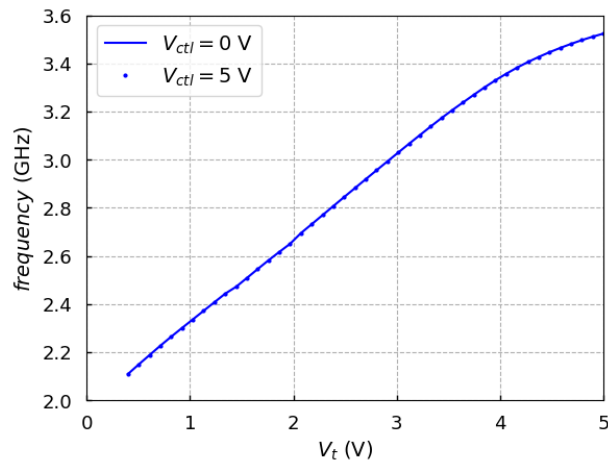

Figure 1. Frequency versus the tuning voltage of the VCO, V_t .
- 4/ Adjust V_t between 0 and 5 V to choose the frequency of operation (refer to Fig. 1)